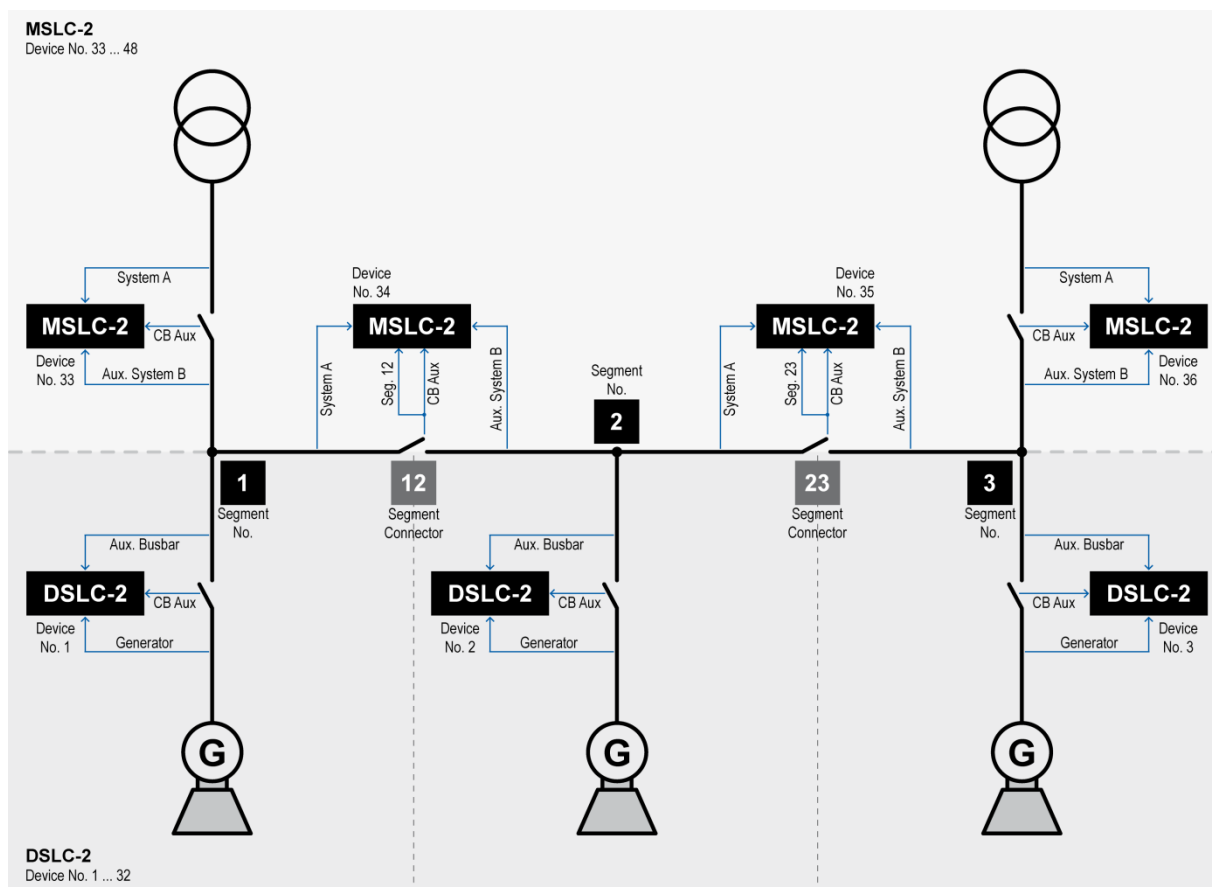

Figure 3-99: Example of an online diagram with segment numbers and segment connector feedbacks
2. Draw the measurement systems arrows between unit and bars (refer to Figure 3-99). Please consider following rules:
3. Draw the segment numbers into your online diagram (refer to Figure 3-99).
4. Draw the device numbers of your units in your online diagram (refer to Figure 3-99).
5. Draw the “CB Aux” feedbacks and segment connection feedbacks in your online diagram (refer to Figure 3-99).